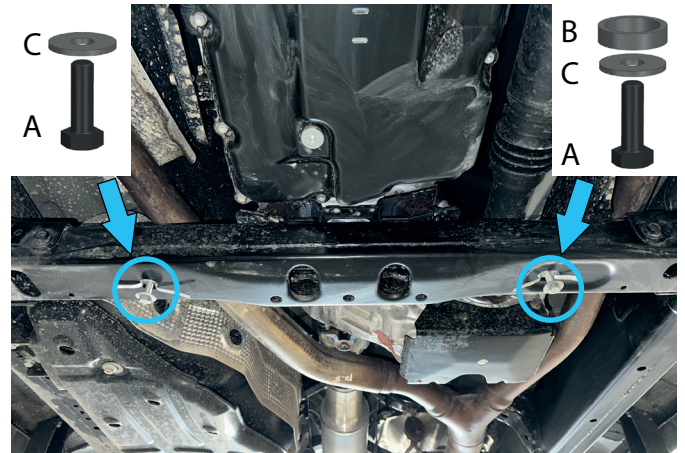

Fig. 2
2. Insert M8x25 bolts (item A) with M8 washers (item C) and spacer (item B) as shown in fig.2. At this point only thread in bolt 2-3 turns.